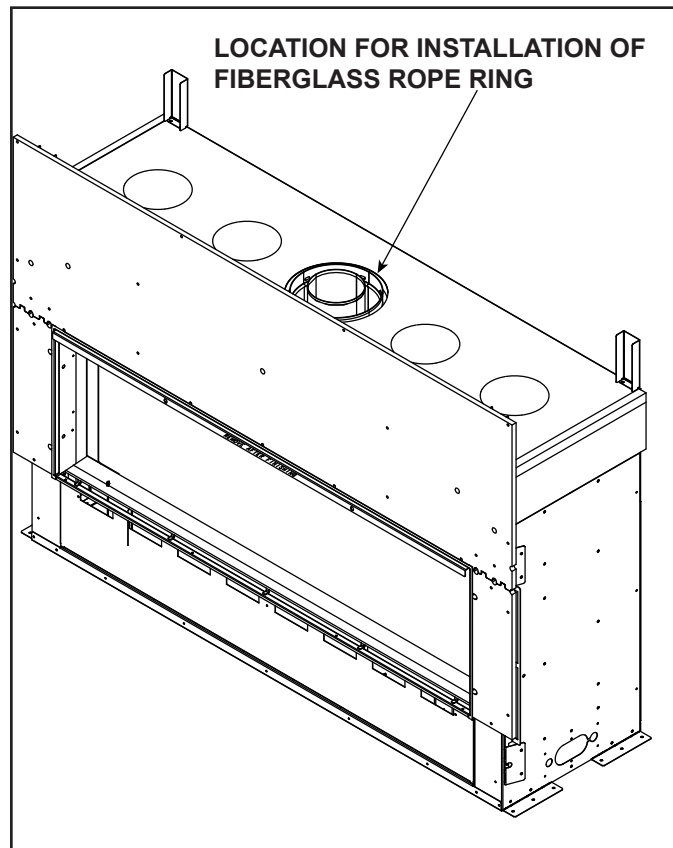
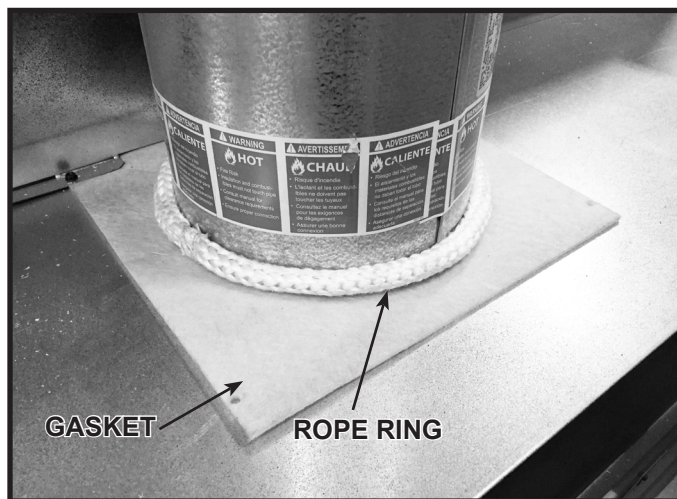

Figure 6.2 Location of Fiberglass Rope Ring
Figure 6.3 Fiberglass Rope Ring Installed
5. Place the fiberglass rope ring over the gasket. Ensure both the gasket and the rope ring are seated on the top of the appliance. See Figure 6.2 and Figure 6.3.